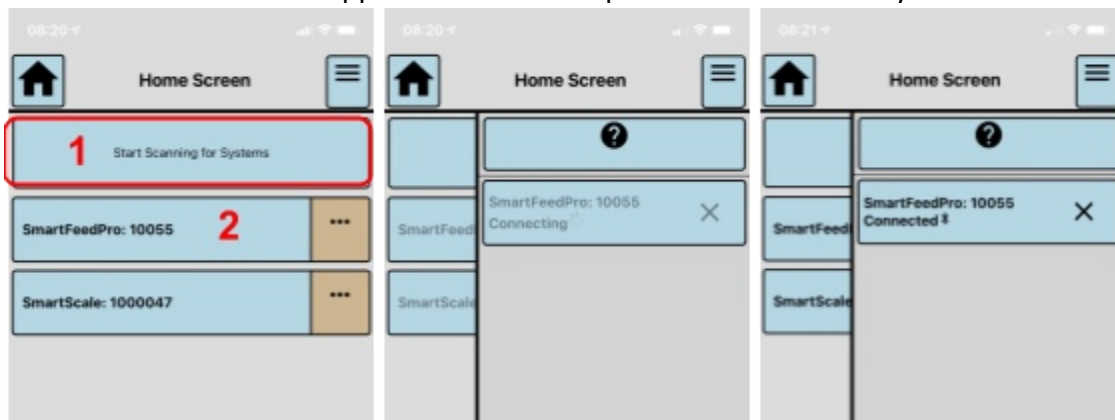

Figure 23) Scanning and Connecting to a SmartFeed System
2. A list of nearby devices (within 50ft / 15m) will appear. See Figure 23.